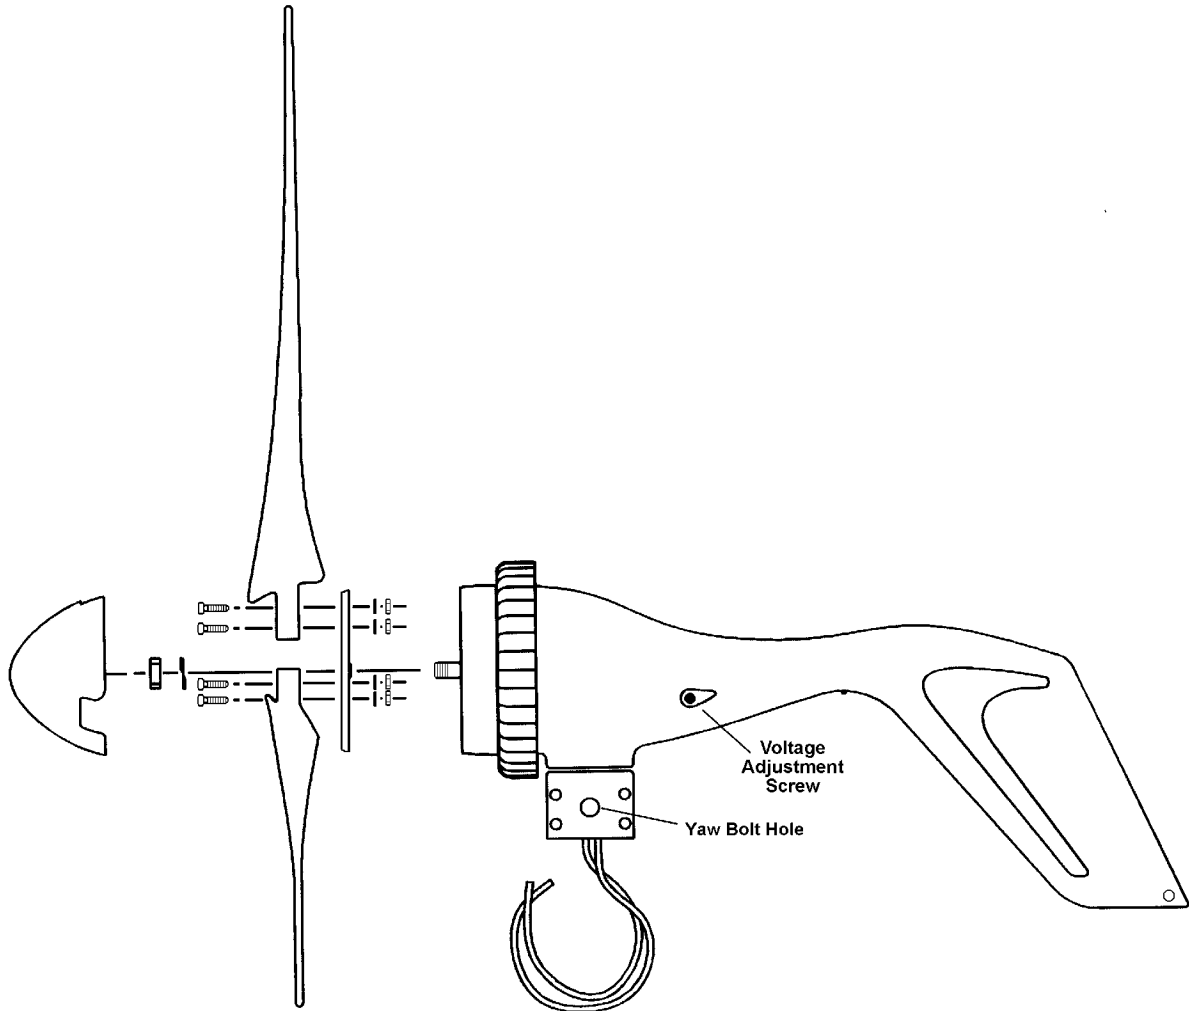

**Figure 6** *Proper Blade-to-Tower Clearances*
**Note:** While attaching the turbine to the tower, be careful not to pinch the yaw wires. Make sure that your tower allows for proper clearance of the blades. A minimum 2 inch (20 mm) clearance must be given between the blade tips and any obstructions. Refer to Figure 6 below, and the “Sphere of Operation” drawing in Section 6.2 on page 27 for proper clearances.